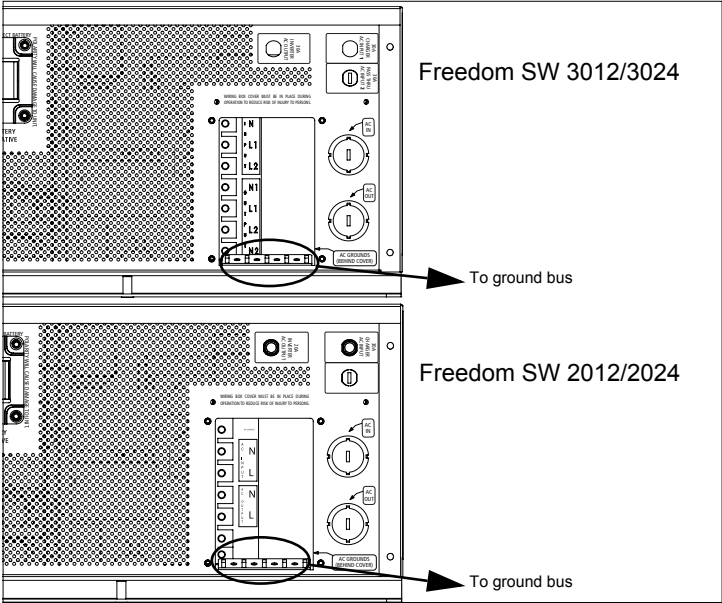

Figure 7 AC Wiring Compartment
AC Wiring Compartment For your reference, the AC wiring compartment is shown in Figure 7 on page 29.
Figure 7 shows the wiring compartment, which contains a grounding bus (used to wire the AC input and output ground wires) and a terminal block (used to wire the AC input and AC output connections).
8. Connect the line and neutral wires to the input terminals (labeled AC Input on the terminal block, Figure 7 on page 29).
10. Connect the ground wires to a free position on the ground bus, Figure 7 on page 29. If solid ground wire is being used, the wire can be connected directly under the screw heads. If stranded ground wire is being used, ring terminals must also be used.
5. Connect the line and neutral wires to the output terminals (labeled AC Output on the terminal block, Figure 7 on page 29) as follows:
7. Connect the ground wires to a free position on the ground bus, Figure 7 on page 29. If solid ground wire is being used, the wire can be connected directly under the screw heads. If stranded ground wire is being used, ring terminals must also be used.